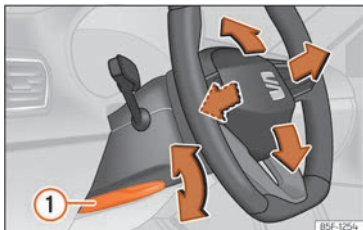

Fig. 62 Lever in the lower left side of the steering column.
- Pull lever >>> Fig. 62 ① down, move the steering wheel to the desired position and lift the lever back up until it locks.
- After adjusting the steering column, push lever >>> Fig. 62 ① firmly upwards so that the steering wheel does not accidentally change position while driving.